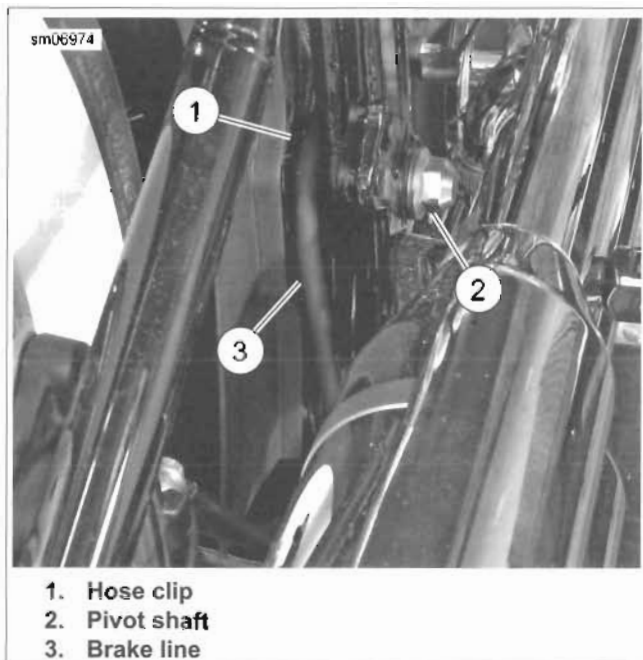

Figure 2-60. Rear Brake Line Routing
See Figure 2-60. When routing the rear brake line (3), make sure it is placed over the pivot shaft (2) and held in place by hose clip (1). 2010 model year and earlier brake lines are routed under the pivot shaft.